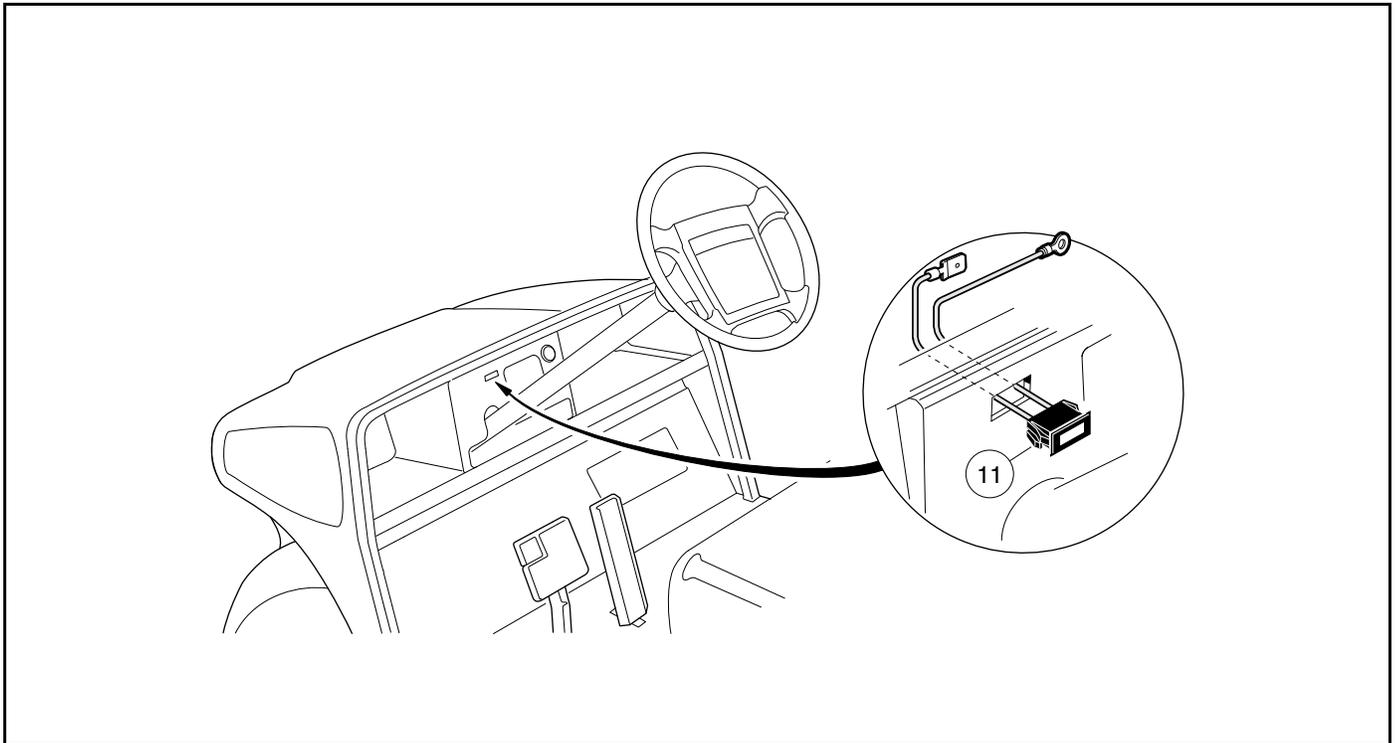

Figure 24-12 Battery Warning Light
4. Press the two retaining tabs (11) and remove the light from the center dash (**Figure 24-12, Page 24-17**).